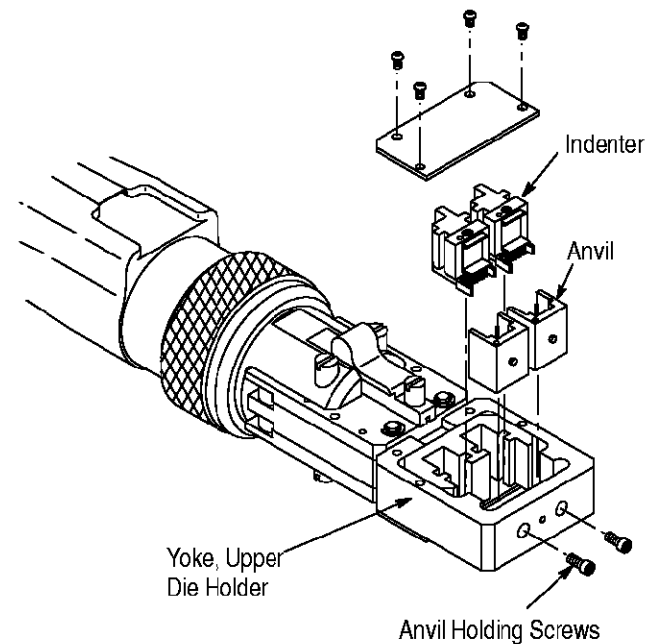

Figure 2
4. DIE INSTALLATION AND REMOVAL (Figures 2 and 3)
2. Assemble anvil (stationary) die to indenter (movable) die as shown in Figure 2.